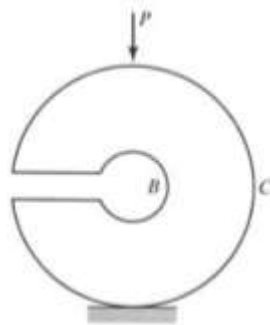

Figure-3
5. The curved beam in Figure-3 has a circular cross section 50 mm in diameter. The inside diameter of the curved beam is 40 mm. Determine the stress at B and C for $P = 20$ kN. 15 M